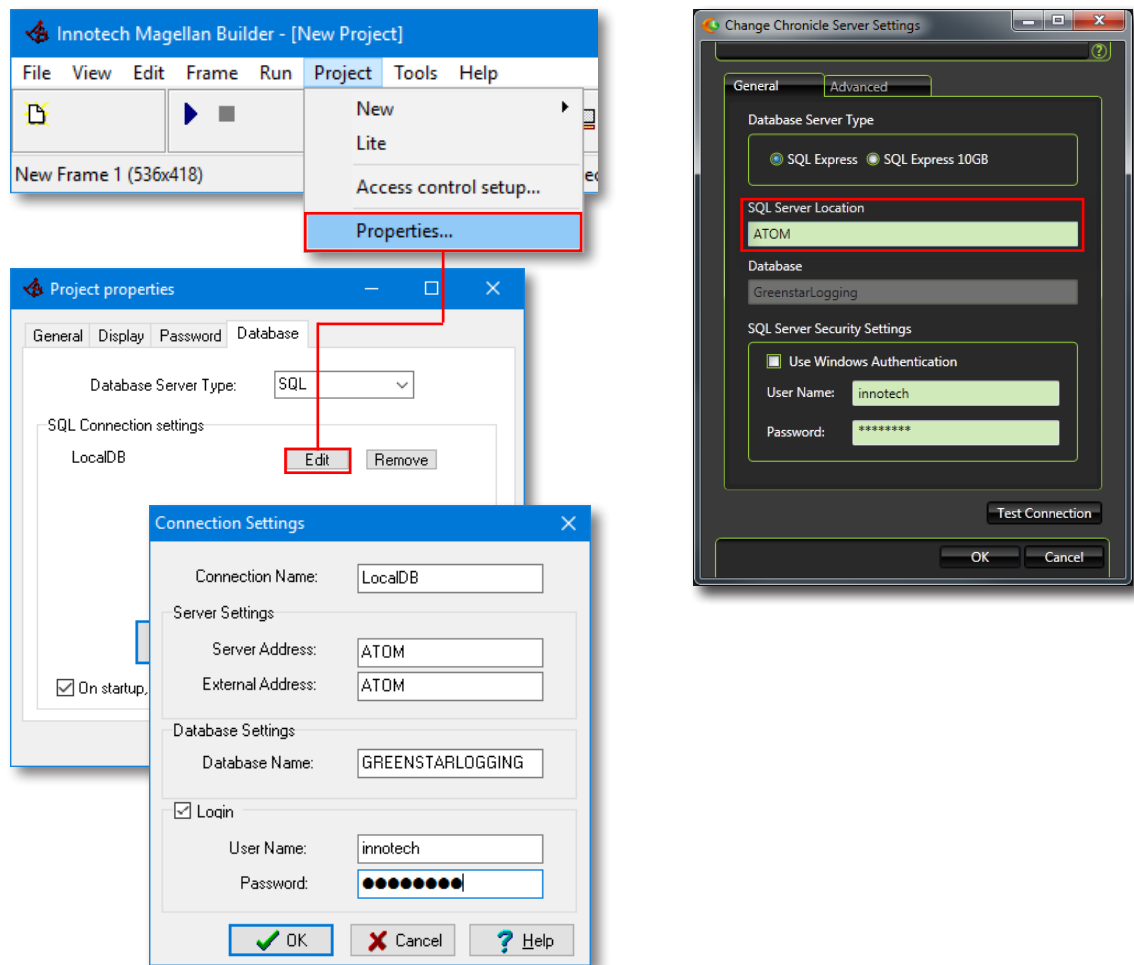

Figure 26: SQL Connection Settings
1. Once the Magellan project is open in Magellan Builder, the database settings need to be configured as shown in Figure 26.